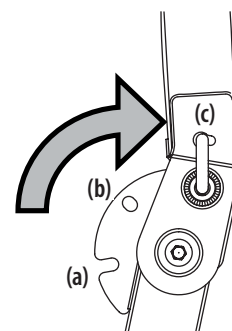

Figure 5
- Move the ROPS into the desired position. See Figure 5.
**NOTE:** The three positions are TRANSPORT (a) position, TRANSPORT WITH BAGGER (b) position and into the OPERATION (c) position. See Figure 5.